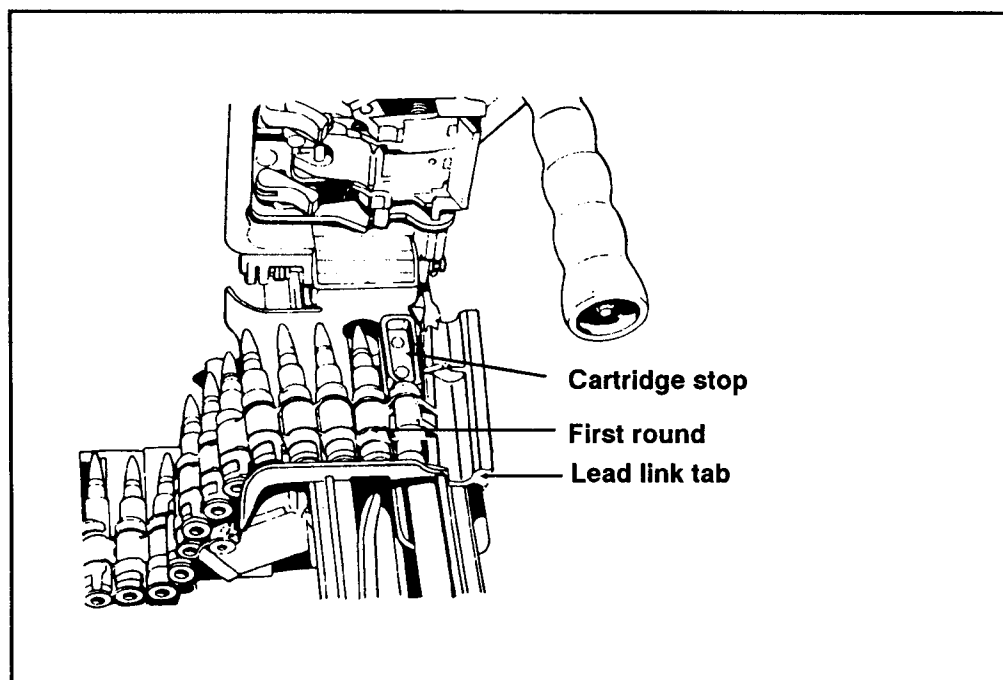

Figure 1-6. M855 cartridges in metallic belt.
(1) *Cartridge, 5.56-mm ball M855 (A059).* The M855 cartridge has a gilding, metal-jacketed, lead alloy core bullet with a steel penetrator. The primer and case are waterproof. The ammunition is linked by a disintegrating metallic split-linked belt for firing from the ammunition box (Figure 1-6). In an emergency, the M855 round can also be loaded and fired from the M16 20- or 30-round magazine. It is identified by a green tip, has a projectile weight of 62 grains, and is 2.3 cm long. This is the NATO standard round. It is effective against personnel and light materials, not vehicles.